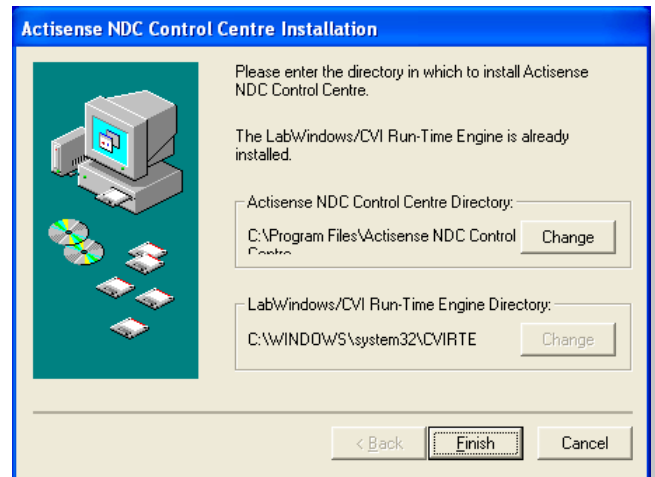
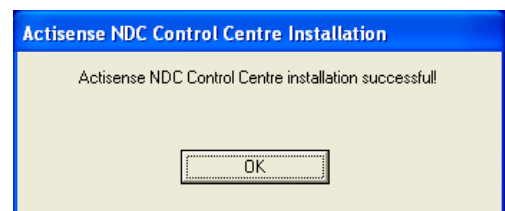

Figure 5 – Install Options
Figure 6 – Installation Complete
4. Double click on the "setup.exe" program file and follow the on-screen instructions of the standard Windows install program. The install location can be change at this point, however, the default location is normally acceptable (refer to **"Figure 5 – Install Options"** and **"Figure 6 – Installation Complete"**).